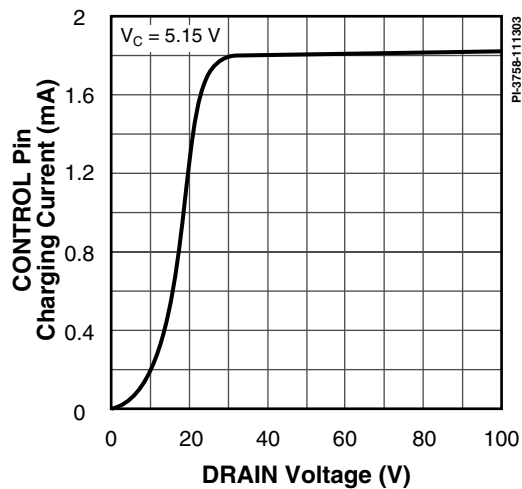

Figure 16. I_C vs. DRAIN Voltage.
- E. It is possible to start up and operate *LinkSwitch* at DRAIN voltages well below 36 V. However, the CONTROL pin charging current is reduced, which affects start-up time, auto-restart frequency, and auto-restart duty cycle. Refer to the characteristic graph on CONTROL pin charge current (I_C) vs. DRAIN voltage (Figure 16) for low voltage operation characteristics.